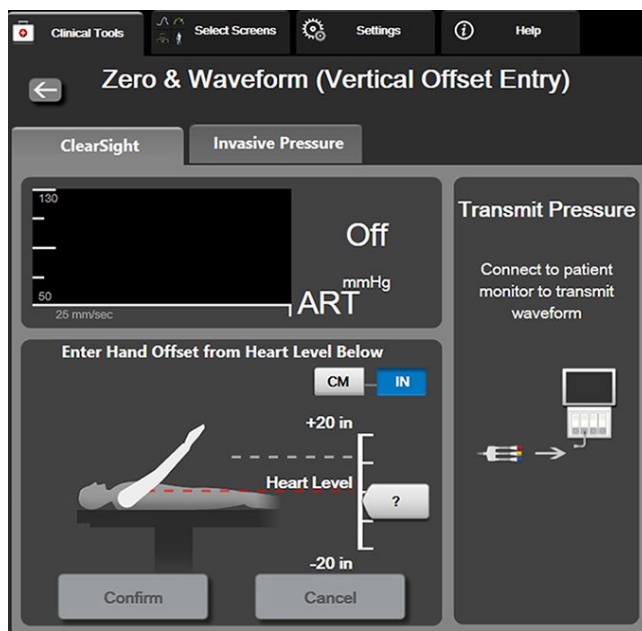

Figure 11-6: Zero & Waveform screen – Vertical Offset Entry
3. The **Zero & Waveform** screen in this mode (shown in Figure 11-6 on page 211) will depict a vertical scale bar to represent the offset of the hand relative to the heart; the heart level is set at zero. A positive offset signifies a patient position where the hand is above the heart. Select the units of the scale bar: **CM** or **IN**.